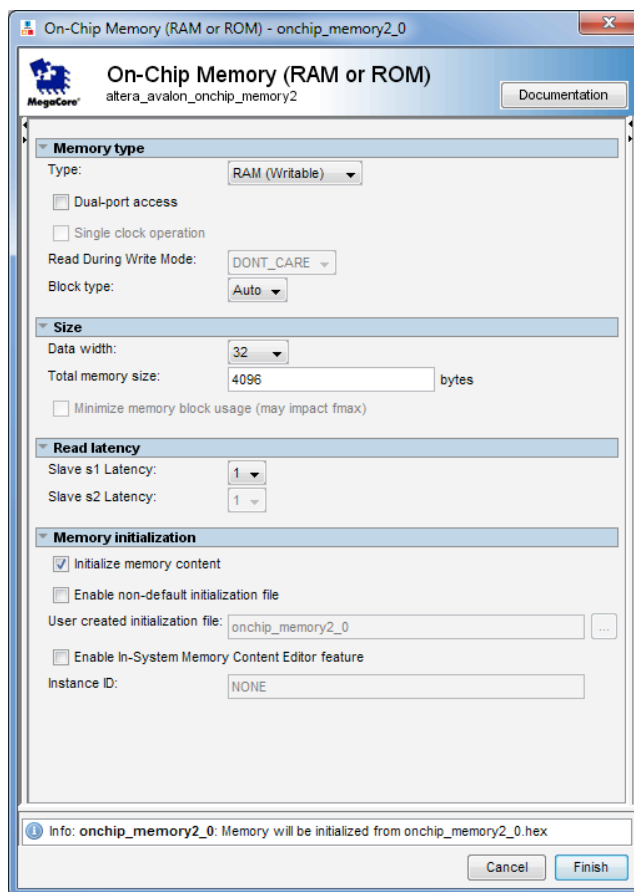

Figure 5. Define the on-chip memory.
- In the On-Chip Memory Configuration Wizard window, shown in Figure 5, ensure that the Data width is set to 32 bits and the Total memory size to 4K bytes (4096 bytes) of RAM